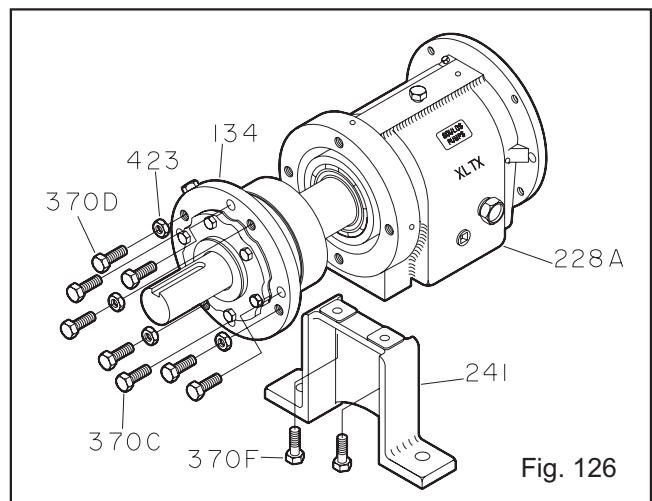

Fig. 126
13. Install shaft assembly into frame (228A), making sure to leave approximately 0.125 in. (3.175 mm) clearance between the face of the bearing housing and bearing frame. Check shaft for free turning (Fig. 126).
14. Install clamping bolts (370C) into bearing housing (134). Hand tighten.
15. Install jacking bolts (370D) with locking nuts (423) into housing (134). Hand tighten.
16. Attach bearing frame foot (241) with bolts (370F). Hand tighten.